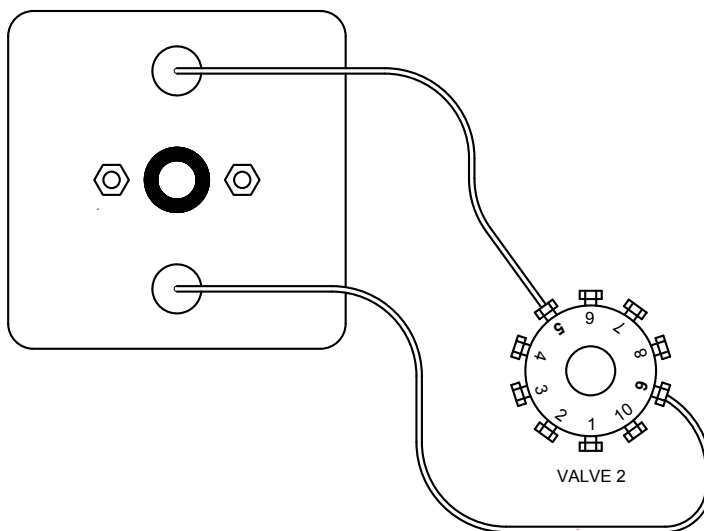

Figure 7-2
- 7.1.4 Disconnect the 1/16-in fittings at Ports 5 and 9 on the 10-port sample/backflush valve. (Figure 7-2).
7.1.11 Reconnect both 1/16-in LDV compression fittings to Valve 2, ports 5 and 9 (refer to Figure 7-2)